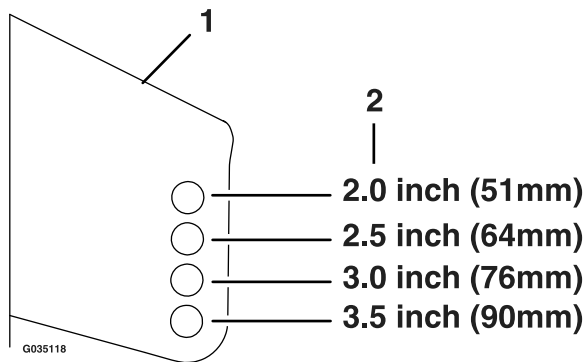

Figure 18
- Place the rollers in one of the positions shown (Figure 18). Rollers will maintain 3/4 inch (19 mm) clearance to the ground to minimize gouging and roller wear or damage.